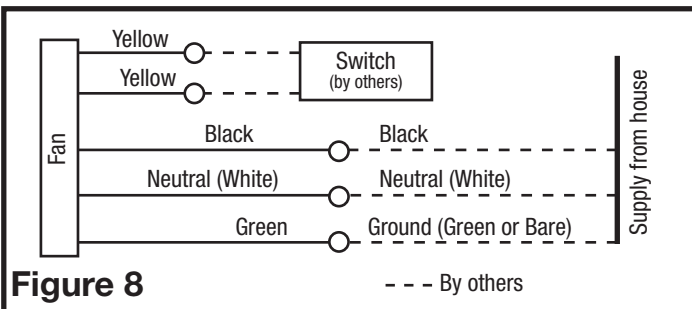

Figure 8
2. **Continuous Ventilation:** For two speed fans wired for continuous ventilation, connect the White wire of the fan to the White (Neutral) wire from the power source. Connect the ground wire from the house to the green wire from the fan housing. Connect the Black wire of the fan to the Black wire (Hot) from the power source. Connect the Hot Yellow wire from the fan to the input of the switch. Connect the second Yellow wire from the fan to the output side of the switch. Closing the switch will change from normal to high speed (**Figure 8**).